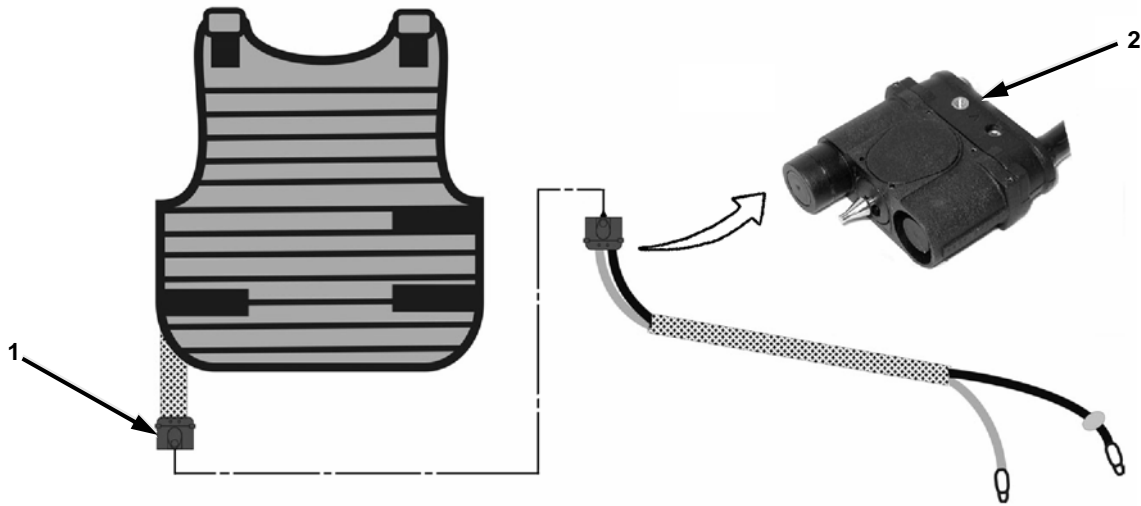

Figure 2-26. Latch Tether for Purging MCG.
2. Connect clear tube (11) on latch tether (1) to white connector (10) on lid (9) of FILLED bottle (8).
3. Connect pump (3) to white connector (5) on lid (6) of EMPTY bottle (7).
Step 4 below applies to Figure 2-26.
4. Connect latch tether (2) to MCG (1).